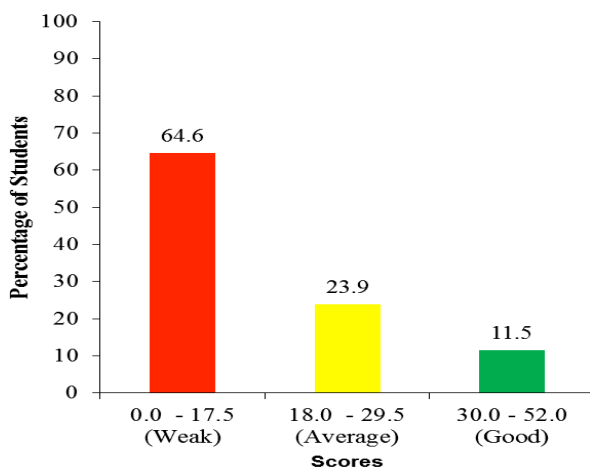

Figure 3: The performance of students in question 4.
This question was attempted by 113 students whose area of specialization was Fitting and Turning. Seven (7) percent of them scored 0 mark, whereas 57.6 percent scored from 1.5 to 17.5 marks, 23.9 percent scored from 18 to 29.5 marks and 11.5 percent scored from 30 to 52 marks. The students' performance is presented in Figure 3.
Figure 3 shows that more than half of the students (64.6%) who attempted this question scored below 18 marks, whereas 35.4 percent managed to score 18 marks and above. Therefore this question is classified as averagely performed.